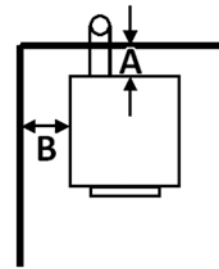

Figure 1
The ECO-45 has been tested and listed for installation in residential, mobile home.(refer figure 1 & 2)
1. Position stove, adhering to clearances shown in Figures 1 & 2.